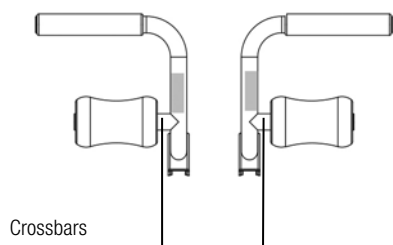
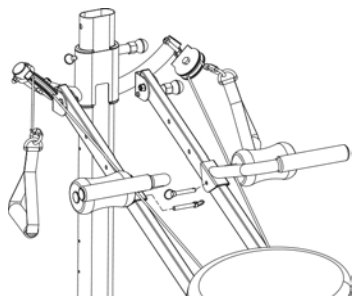

Fig. 1
Fig. 2
If the Stopper at the bottom of the Vertical Column has not already been installed, please do so now. Locate the Stopper which is packed in Miscellaneous Accessories (**See** Product Specifications on page 4 of this manual). Unscrew nut on the end of the Stopper and remove. Insert the Stopper into the hole located in the center of the Back Crossbar (See Fig. 1). Screw the nut back onto the Stopper and tighten with Allen Wrenches provided (See Fig. 2).
2. Then attach Foam Pads on the Crossbars as shown in Fig. 1. Let dry before beginning to exercise with the Multi-Function Attachments.
3. Insert the 2 Short Hitch Pins through the holes on the Multi-Function Attachment Brackets and the hole on the Rails, as shown in Fig. 2.
2. With the small end of the Ab Crunch Board closest to the Handle Grip securely attach the appropriate Handle with 4 Flanged Hex Bolts using Hex Wrench provided. See Fig. 1 below.